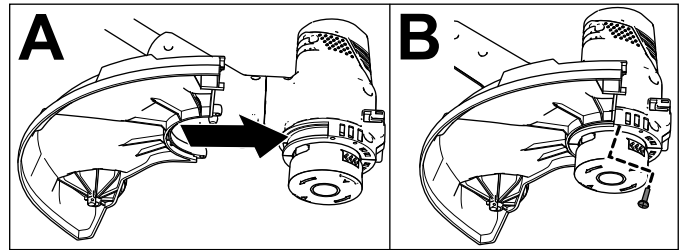

Figure 5
1. Remove the 2 Phillips screws that are taped to the guard and slide the guard onto the trimmer base (A of Figure 5).
2. Secure the guard onto the base of the trimmer with the 2 Phillips screws (B of Figure 5).